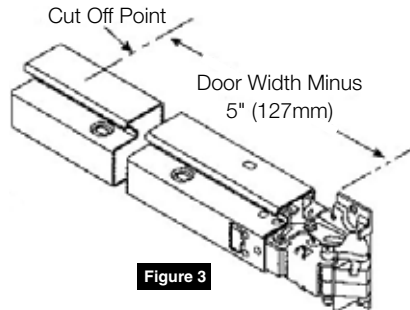

Figure 3
2. Measure and mark bar as shown. (Figure 3)